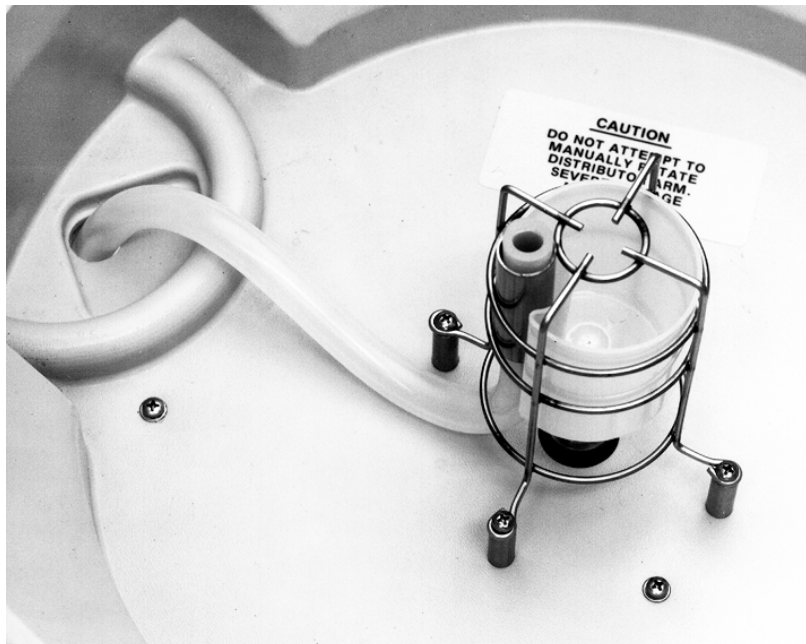

Figure 4-1 Composite Sampling: Float and Float Cage Installed on Center Section
3. Turn the center section over, as shown in Figure 4-1, and install the optional float and float cage. You should install the shaft on the “diving-bell” float in the hole in the distributor shaft, as shown. Attach the float cage to the underside of the center section using the four screws and the 1-inch spacers provided with the float-cage kit.
When attaching the cage, reuse the existing lockwashers. Be sure the float cage is oriented with the tube guide positioned as shown in Figure 4-1. The float and float cage direct the discharge of the sample into the composite container and provide a fail-safe shut-off to prevent accidental over filling of the composite container.
4. Feed the 34.5-inch (88.5-cm) composite-pump tube (supplied with the optional float and float cage) through the port in the center section. Then, place it in the float-cage tube guide, as shown in Figure 4-1, and install it in the pump as described in *Installing a New Pump Tube* (Section 5.3.3).